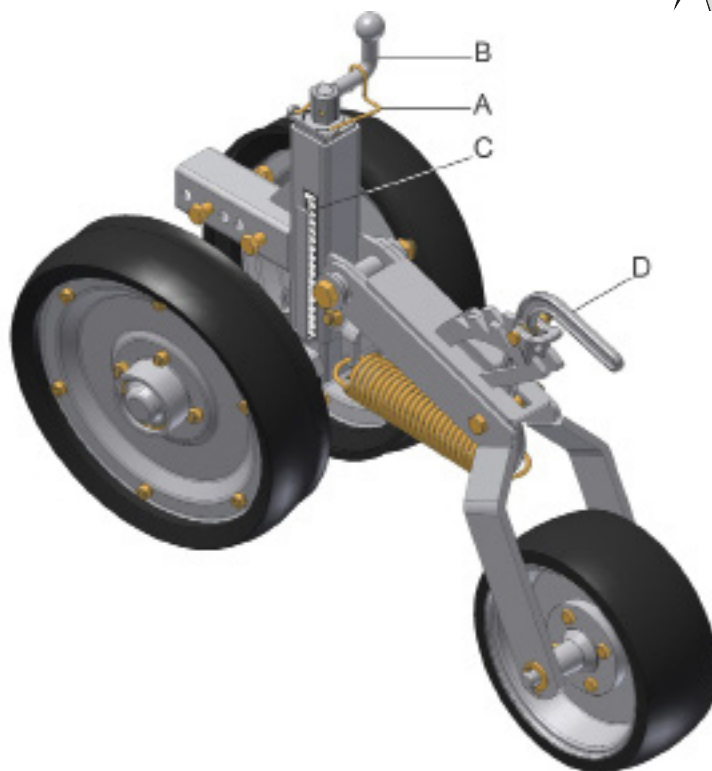

fig. 25
- 2-** Release the spring latch (A) (fig. 25/26) and turn knob (B) until the desired height on the indicator scale (C). Note that in all planting lines the scale indicator is in the same position;
- 3-** Lock again the knob with the spring latch (A). Depth limits in relation to double discs are 0,5 cm (minimum) to 14 cm (maximum) must be observed.
To make pressure adjustment the press wheel, adjust the spring pressure, moving the lever (D) (fig. 25/26). The greater the pressure of the spring, the greater the pressure exerted under the seed.